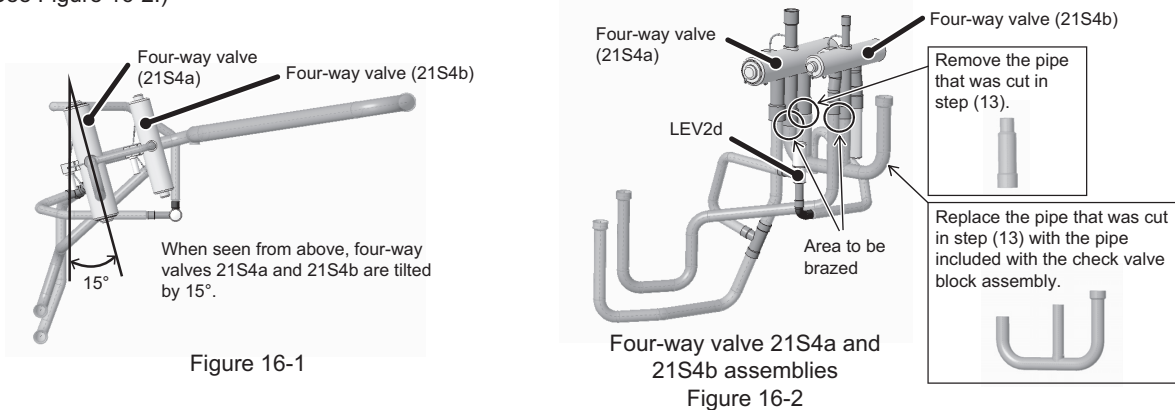

Figure 16-1
- (16) Re-place the four-way valves (21S4a and 21S4b) that were removed in step (13). Figure 16-1 shows how to position a new four-way valves.